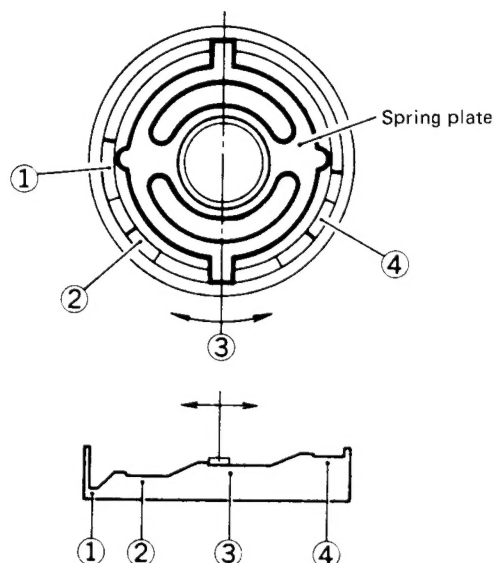

Fig. 13
- 2) When the playback torque is not in this range, check whether or not rubber and/or rotary members have dirt and/or oil on them. After that, if the torque is still low, lift up the spring plate shown in Fig. 13 to move it to position ③, while if the torque is high, move it to position ① in the same manner.